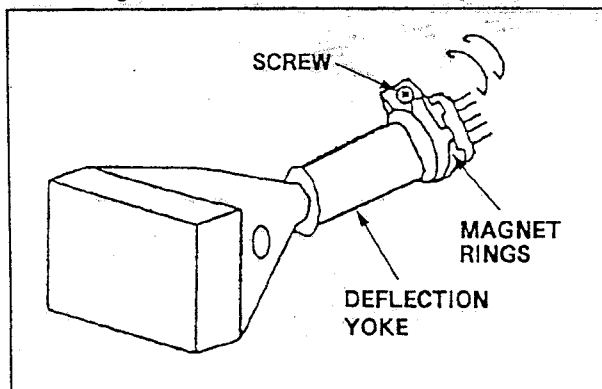

Figure F5.
2. Loosen the clamp band screw holding the deflection yoke as shown in Figure F5.